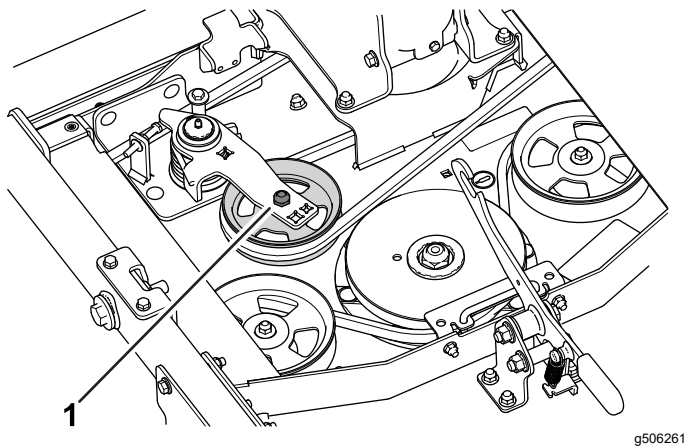

Figure 7
7. Install the drive belt around the idler pulley (Figure 7).